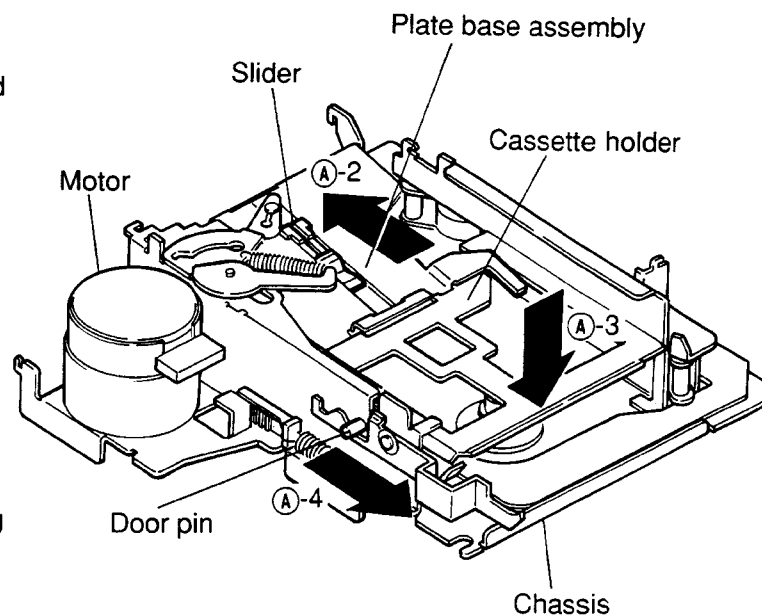

Figure 2
- (5) When remounting the bottom cover, first turn the front of the mechanism up as shown in Figure 2.
- (6) Slide the slider in the direction ③-2 as shown in Figure 2.
- (7) Push down the cassette holder in the direction ③-3 as shown in Figure 2.
- (8) Pull the door pin in the direction ③-4 so that the mechanism is locked in as shown in Figure 2.